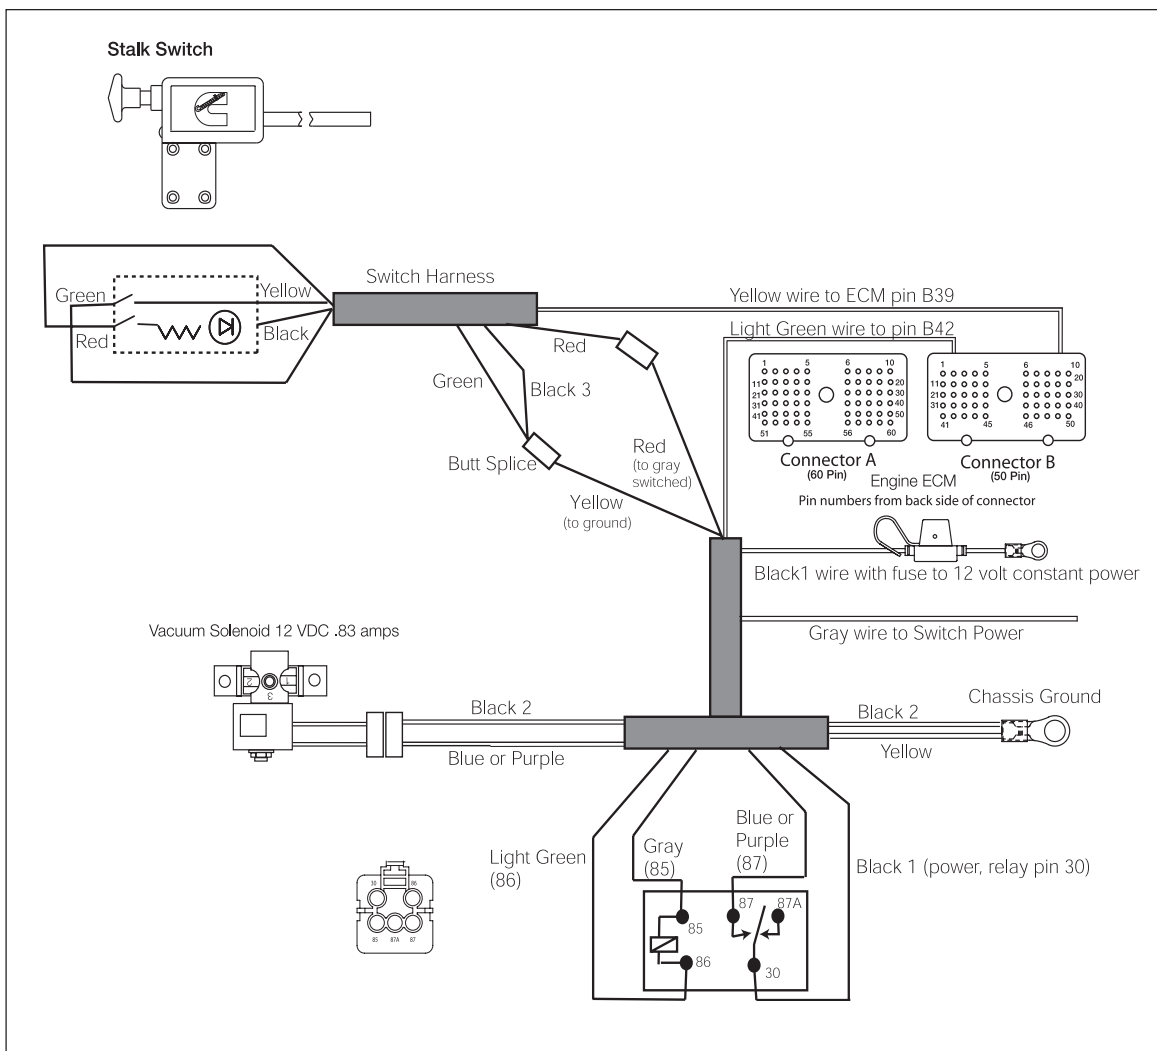

Fig. 24a
2. Disconnect the solenoid connector from the brake harness. With a Volt/Ohm meter, check the resistance between the pins of the solenoid connector. If reading is zero (0) then the solenoid is shorted and should be replaced. If the reading is over 20 ohms then the solenoid has an open condition and should be replaced. The normal resistance reading should be between 10 ohms and 20 ohms.
5. Check wiring against figure 24a.